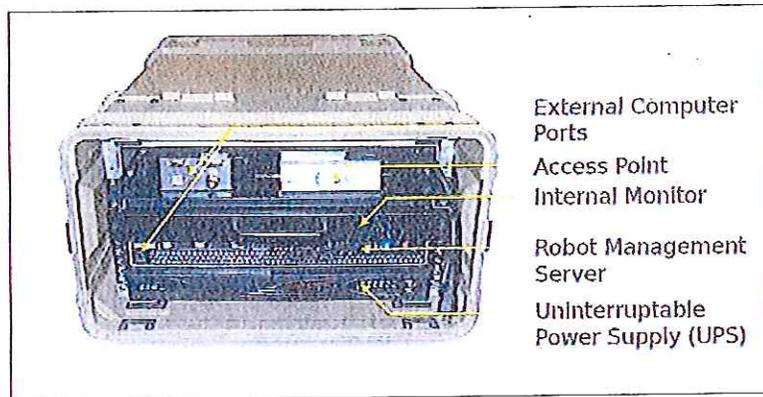

Figure 2. RHTT Control Station.
c. The RHTT control station (Figure 2) is a portable computer rack that controls the RHTT Wi-Fi infrastructure and coordinates the operation of the RHTT T40s.